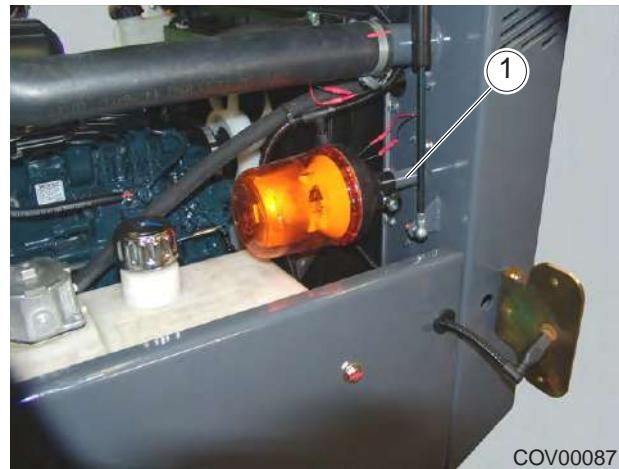

Figure 4.16 - Beacon Storage Position
To help prevent damage, theft and vandalism the flashing beacon can be removed from its working position on the ROPS and stored inside the lockable engine compartment when not required. A dedicated mounting point, Figure 4.16, is provided. It is held in position by tightening the nut (1).